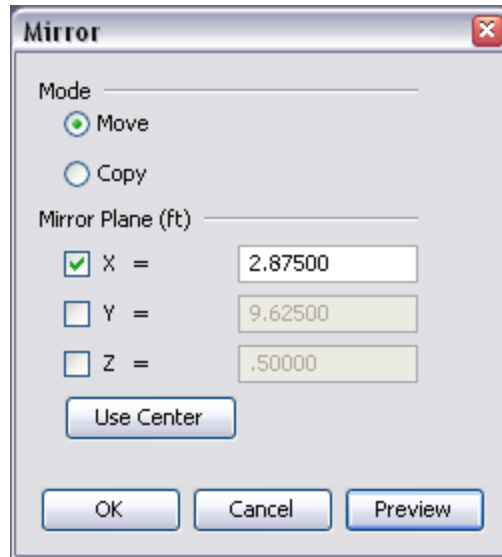

Figure 111. The mirror dialog
3. This will show the Mirror dialog as in Figure 111.